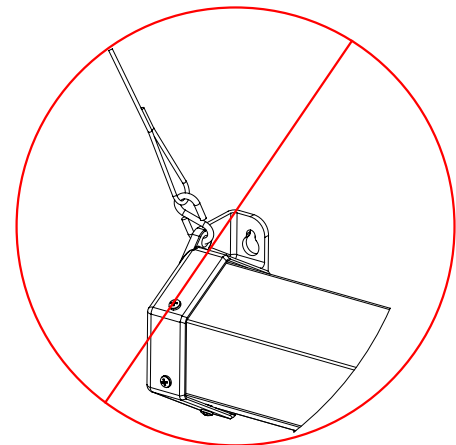
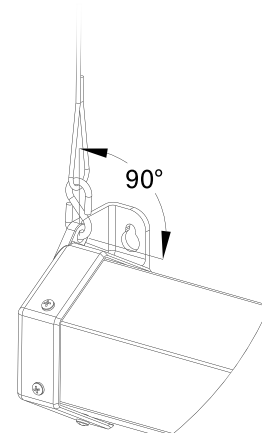

FIGURE 3
FIGURE 4
- NOTE: DO NOT** hang from the end caps at an angle. See Figure 3. Must be perpendicular to the mounting. See Figure 4.